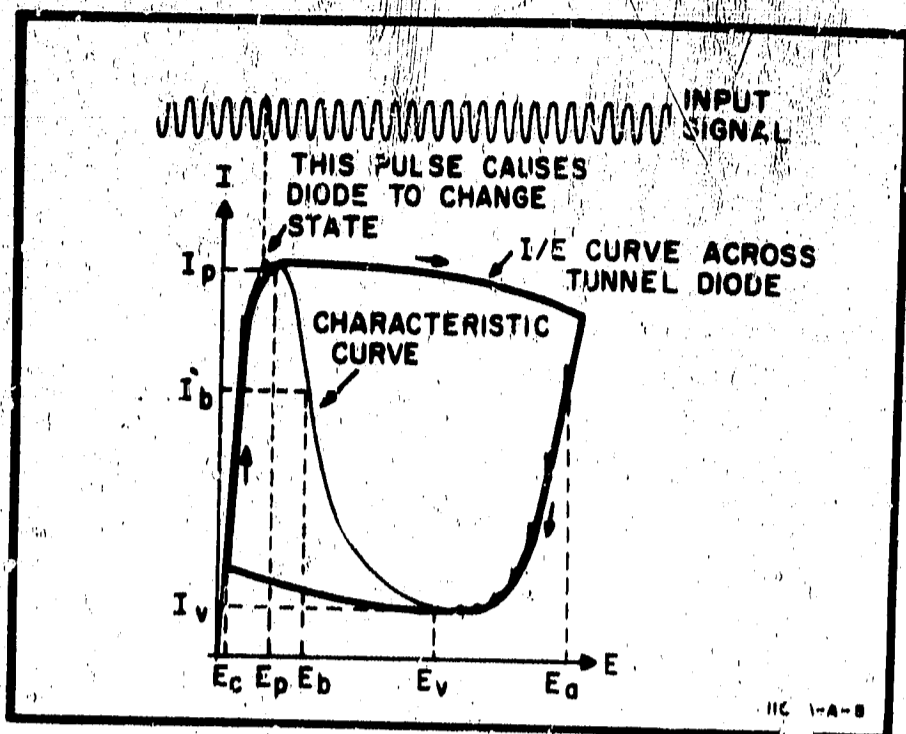

Figure 8. Typical Tunnel Diode Excursion
24. The Model 1104A consists principally of a constant current bias supply for the tunnel diode. The output current is set by R3 and R4 (Figure 11) to a value which provides relaxation oscillation by the action of the tunnel diode and L5. The tunnel diode oscillates at a free-running frequency of approximately 100 MHz, depending on the current supplied by the bias supply and the inductance of L5. A typical tunnel diode characteristic curve is shown in Figure 8. A negative resistance region (in which current would decrease as voltage increases) exists between I_p and I_v . The bias output of the Model 1104A is adjustable between these two points; for instance, I_b .
26. Application of a high-frequency input signal to the tunnel diode mount input connector causes the switching of the tunnel diode to synchronize with the input signal. Synchronism will occur when a specific cycle of the input signal causes the tunnel diode current to exceed the switching level. See Figure 8.
34. If there is no trigger output from the Trigger Countdown, check voltage using a VTVM with the T. D. Mount disconnected and a 2.7-ohm resistor connected across the Model 1104A INPUT connector. The schematic indicates typical dc voltages with the STABILITY control at full counterclockwise. Voltages in parenthesis are with the STABILITY control at full clockwise. Variations of 15% are normal. To check the T. D., use a Tektronix Type 575 Transistor Curve Tracer. Set Vertical to 10 mA/cm, Horizontal to .2 V/cm, Peak Volts Range to 0-20, Peak Volts to zero, Dissipation Limiting Resistor to zero and Polarity to +. Connect lead C to center conductor and lead E to T. D. Mount case. Slowly increase Peak Volts. The characteristic curve illustrated in Figure 8 should develop. The points on the curve should meet the following criteria: $I_p < 60 \text{ mA}$, $E_p < 400 \text{ mV}$, $I_p - I_v > 37 \text{ mA}$, $E_a - E_p > 400 \text{ mV}$.